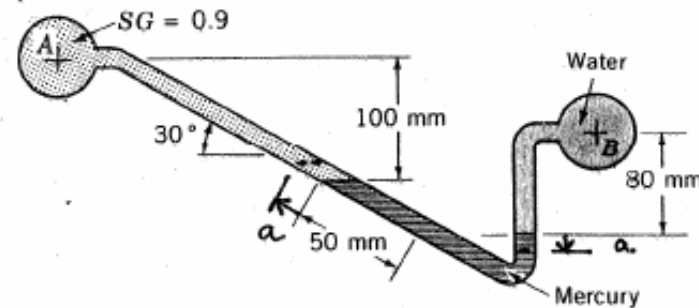

FIGURE P2.45
2.45 Determine the new differential reading along the inclined leg of the mercury manometer of Fig. P2.45, if the pressure in pipe A is decreased 10 kPa and the pressure in pipe B remains unchanged. The fluid in A has a specific gravity of 0.9 and the fluid in B is water.